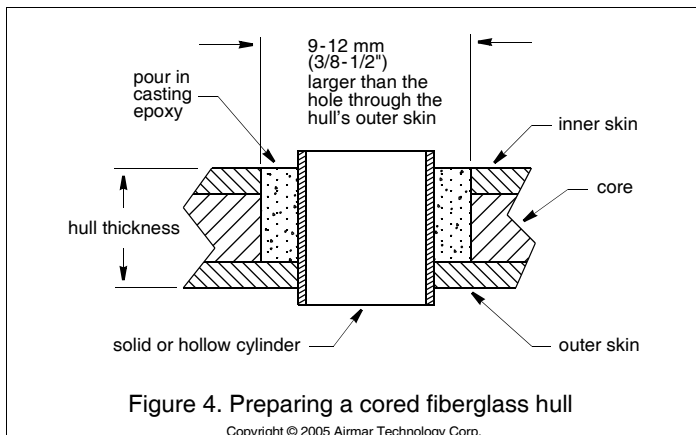

Figure 4. Preparing a cored fiberglass hull
2. Using the appropriate size *outside hull* hole saw, cut a hole from outside the hull through the *outer* skin only (see table on page 1) (see Figure 4).